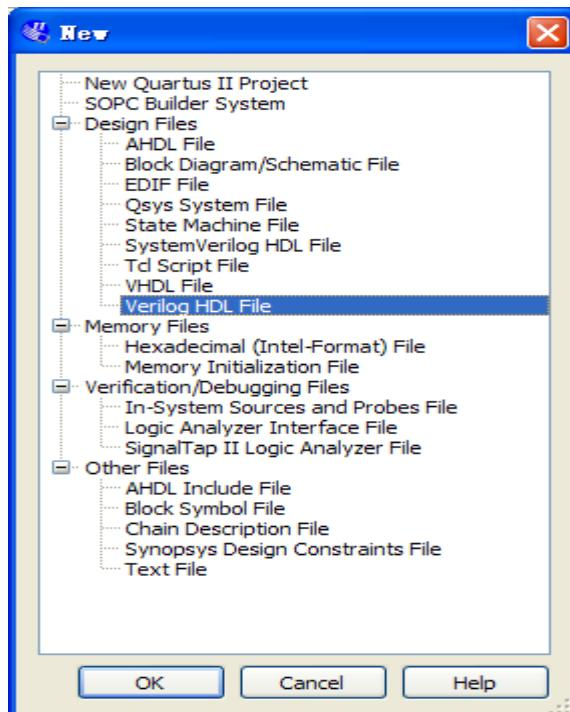

**Figure 7-39 Return to Quartus II after exiting SOPC Builder**
24. Click **Exit** to exit the SOPC Builder and return to the window as shown in Figure 7-39.